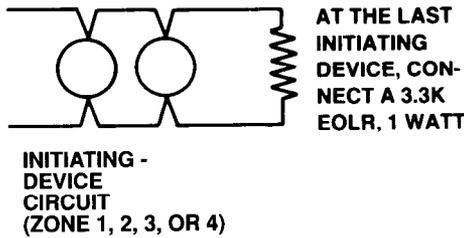

FIGURE 4
3. Install all peripheral devices (detectors, horns, pull stations, etc.) and connect them to the appropriate wires (refer to the installation instructions packed with the devices). Connect a 3.3K end-of-line resistor (EOLR) across the terminals of the last device in each initiating circuit and mark the device accordingly (see Figure 4). Connect a 10K EOLR across the terminals of the last device in each notification appliance circuit and mark the device accordingly (see Figure 5).